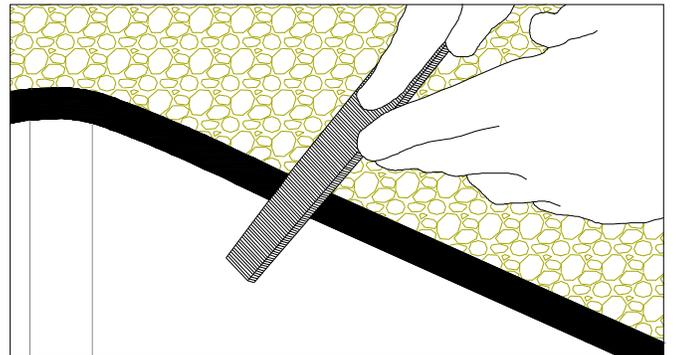

Figure 29C
- Lightly file at a 45° angle. (FIG. 29C)